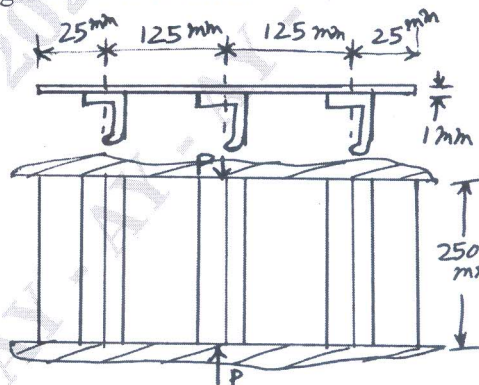

Fig.Q5(b)
b. The sheet stringer panel shown in Fig.Q5(b) is loaded in compression. The sheet is assumed to be simply supported at the loaded ends and free at the sides. Each stringer has an area of  $65 \text{ mm}^2$ . Assume  $E = 7.1 \times 10^4 \text{ MPa}$ ,  $K = 3.62$  and  $0.385$  for the sheet between stringers and edge of the sheet respectively. Find the total compressive load (i) when the sheet first buckles (ii) when the stringer stress is  $69 \text{ MPa}$ .